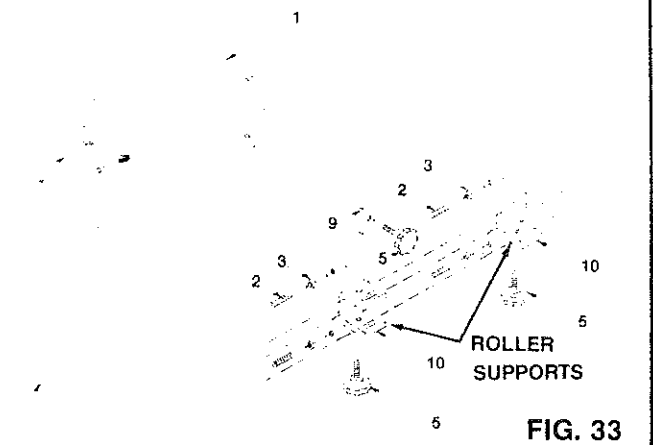

FIG. 33
There are two (2) roller supports that are mounted to the square mounting bar so that the "V" faces the back of the machine as pictured. (See FIG. 33)